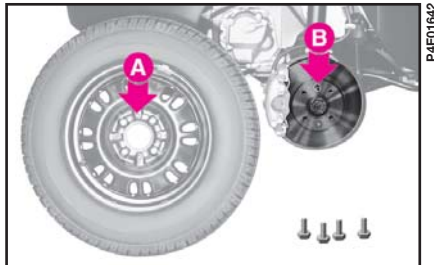

fig. 5
8) Ensure that the housing for the wheel bores on the spare wheel are clean and free from dirt, which could cause the wheel bolts to come loose. Fit the spare wheel, in order that the holes **A**-fig. 5 coincide with the relevant pins **B**.